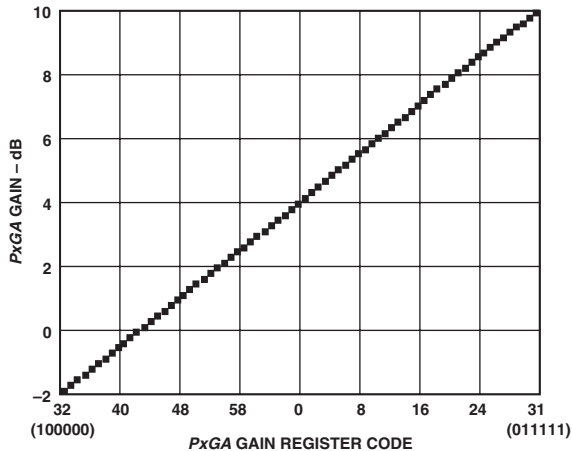

Figure 19. PxGA Gain Curve
The same Bayer pattern can also be interlaced, and the VD selected mode should be used with this type of CCD (see Figure 18b). The Color Steering performs the proper multiplexing of the R, G, and B gain values (loaded into the PxGA gain registers) and is synchronized by the user with vertical (VD) and horizontal (HD) sync pulses. For more detailed information, see the PxGA Timing section. The PxGA gain for each of the four channels is variable from -2 dB to +10 dB, controlled in 64 steps through the serial interface. The PxGA gain curve is shown in Figure 19.